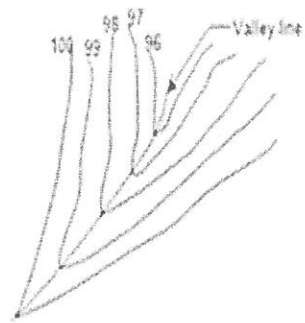

Fig. 2
8. Contour lines with U-shape with convexity towards lower ground indicate ridge (Fig. 2)